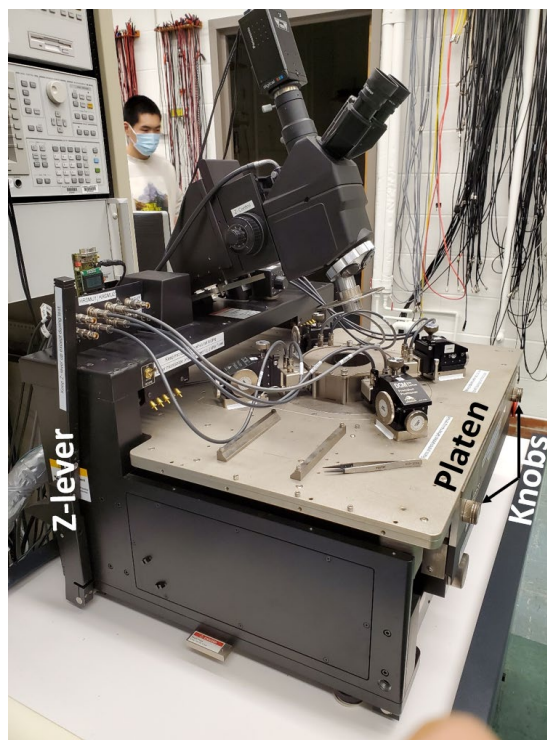

Fig. 2.1. Z-lever for platen and doorknobs for microchamber.
- 2.3 Make sure the microscope is lifted up as shown in Fig. 2.1. This way, through the top opening of the microchamber, you can peek with bare eyes at the probes inside. If the microscope is down, lift it by flipping the switch near the left end of the bridge the microscope is mounted on. This heavy-duty bridge spans the width of the probe station and supports the microscope with high stability.
- 2.5 Make sure the z-lever (Fig. 2.1) is up, which lifts the platen, including the probe positioners and microchamber cover, away from the chuck. Lowering the z-lever lowers the platen and brings the probes closer to the chuck.
- 2.6 Unlock the microchamber access door by turning the two knobs on the left and right ends of the door (Fig. 2.1). Allow the door to flip down while remaining hinged.